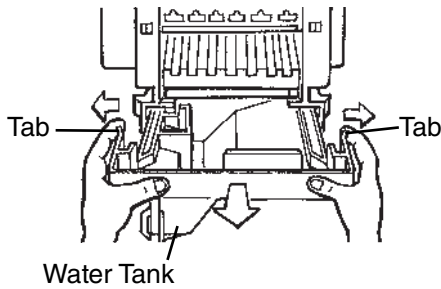

Fig. 35
- 5) Spread out the tabs to unlock the water tank, then slide it out. See Fig. 35.